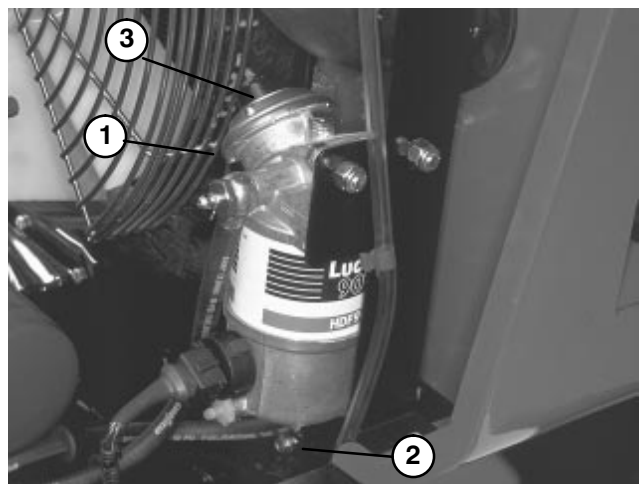

Figure 31
1. Place a clean container under fuel filter (Fig. 31).